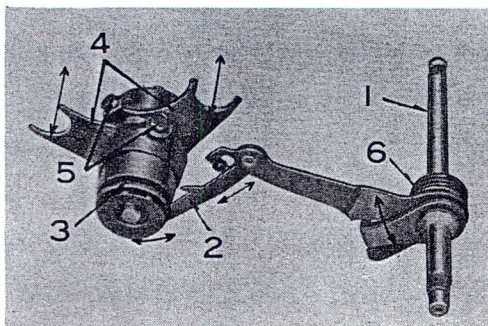

Fig. 3-16.
Pushing down change pedal (Fig. 3-16), gear shift spindle ① is rotated. Then gear shift arm ② turn drum at the end of claw by pressing down drum pin fitted on gear shift drum ③. As shift fork ④ is fitted on shift drum and the end of shift fork guide pin ⑤ fixed on shift fork meshed with central 2 grooves on drum; shift fork moves to and fro along the groove by drum rotation to let shifter and shifting gear move. Here gear shift return spring
⑥ serves change pedal to restore original position and prepare the next operation.